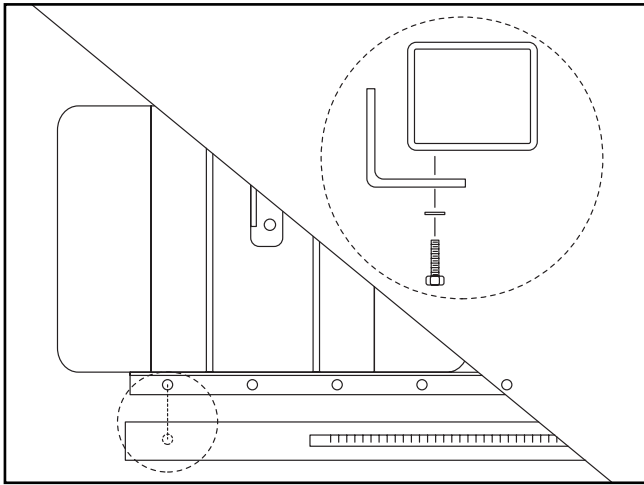

Figure 10A. Attaching fence tube to front rail.
4. Attach the square fence tube to the front rail using the hex bolts and lock washers as shown in **Figure 10A**.